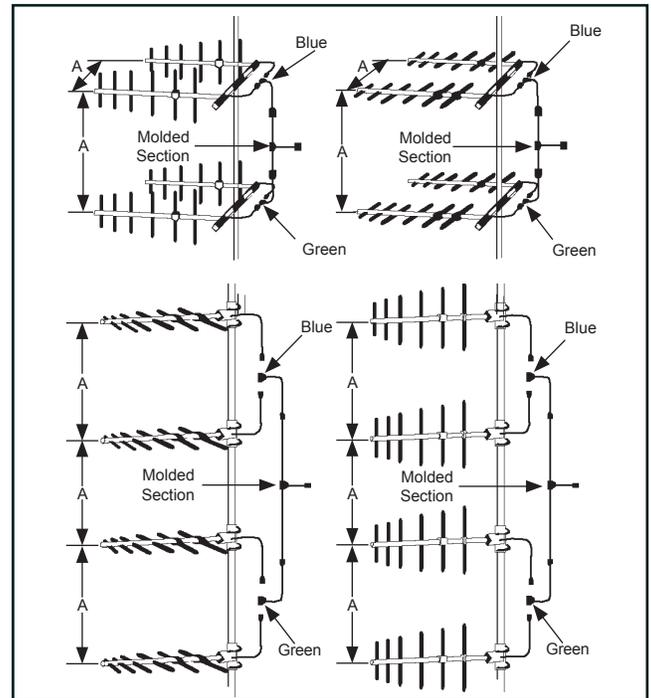

Figure 5. Quad Arrays (DB498 shown).
The DB498-4/DB499-4 arrays consist of four DB498/DB499 antennas with a phasing harness to connect the units together. Refer to Figure 5 when performing this procedure.
3. Connect the four units together using the phasing harness (Figure 5); be sure to match the color codes.